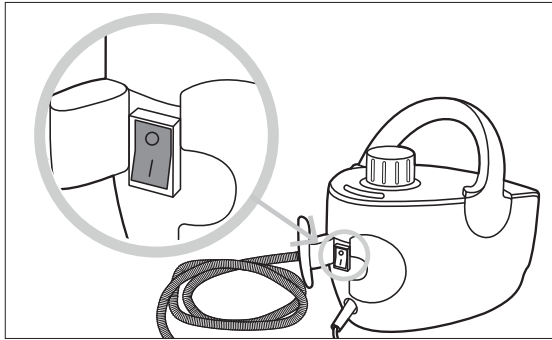

Fig. 5
1. Connect the power plug (6) to a suitable socket outlet.
2. To switch the appliance on, press the "I" down on the on/off switch (1). The steam ready light (2) illuminates red and the appliance starts to heat up (Fig. 5).
3. To switch the appliance off, press the "O" down on the on/off switch (1). Disconnect the appliance and let it cool down (Fig. 5).